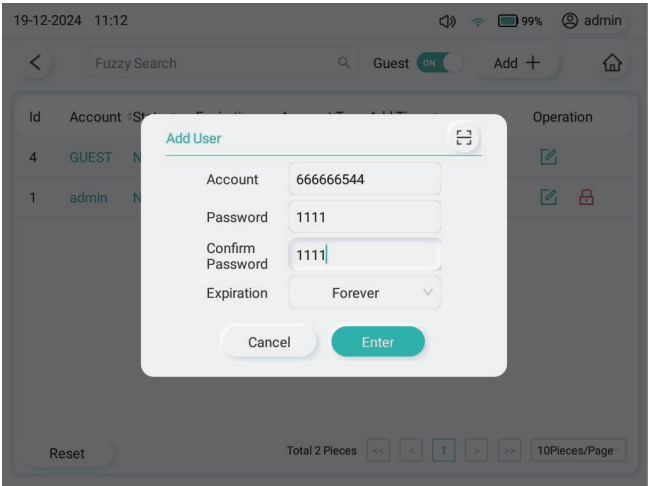

Figure 5-5 Add a user
1) Click **Add +** to add a user. (Figure 5-5)